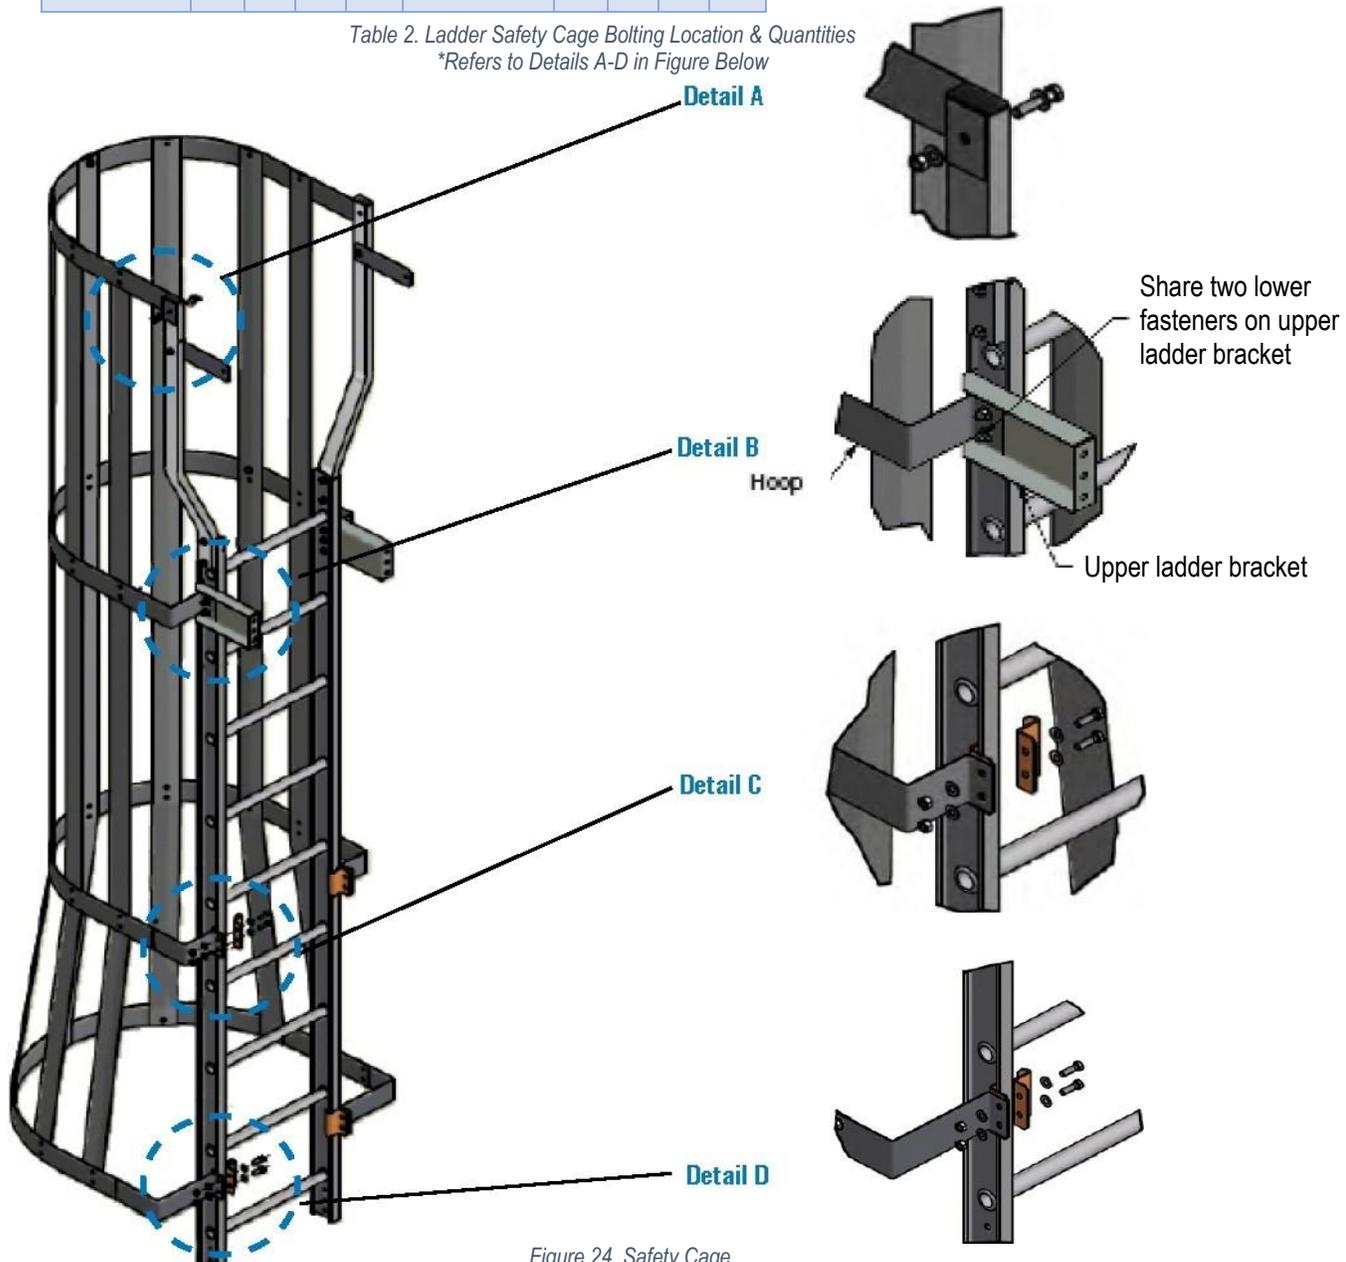

Figure 24. Safety Cage
- Bolt the safety cage to the ladder using flat washers and locknuts. Orient all fasteners with bolt heads inside safety cage. See **Figure 24, Detail A** through **D** and refer to **Table 2** for the quantity of bolting locations for different safety cage heights.